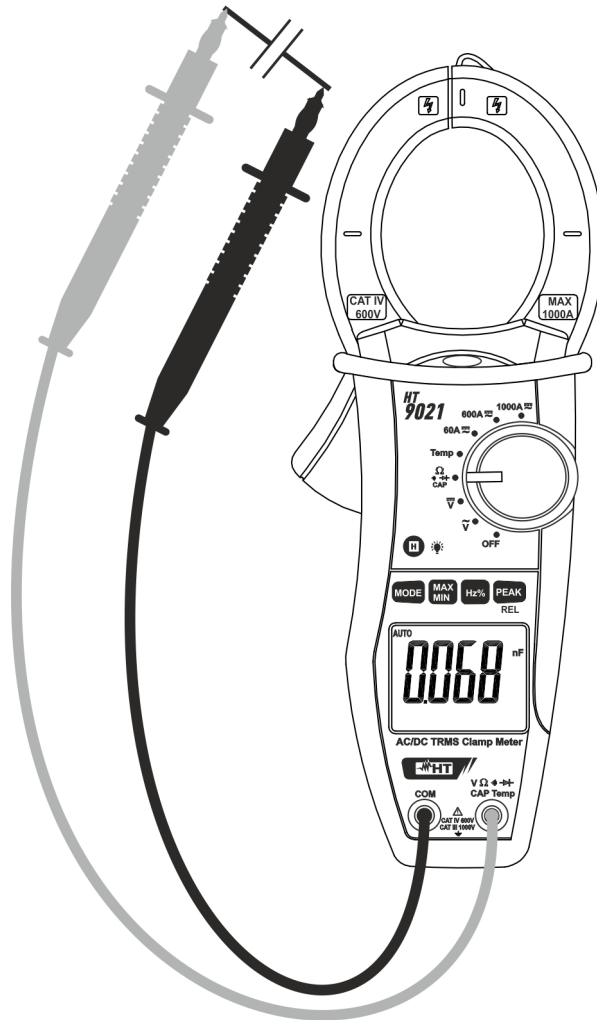

Fig. 7: Taking Capacitance measurement
3. Insert the red test lead plug into  $V\Omega \cdot \text{V}$   $\rightarrow$  **CAP Temp** jack and the black test lead plug into **COM** jack (Fig. 7)